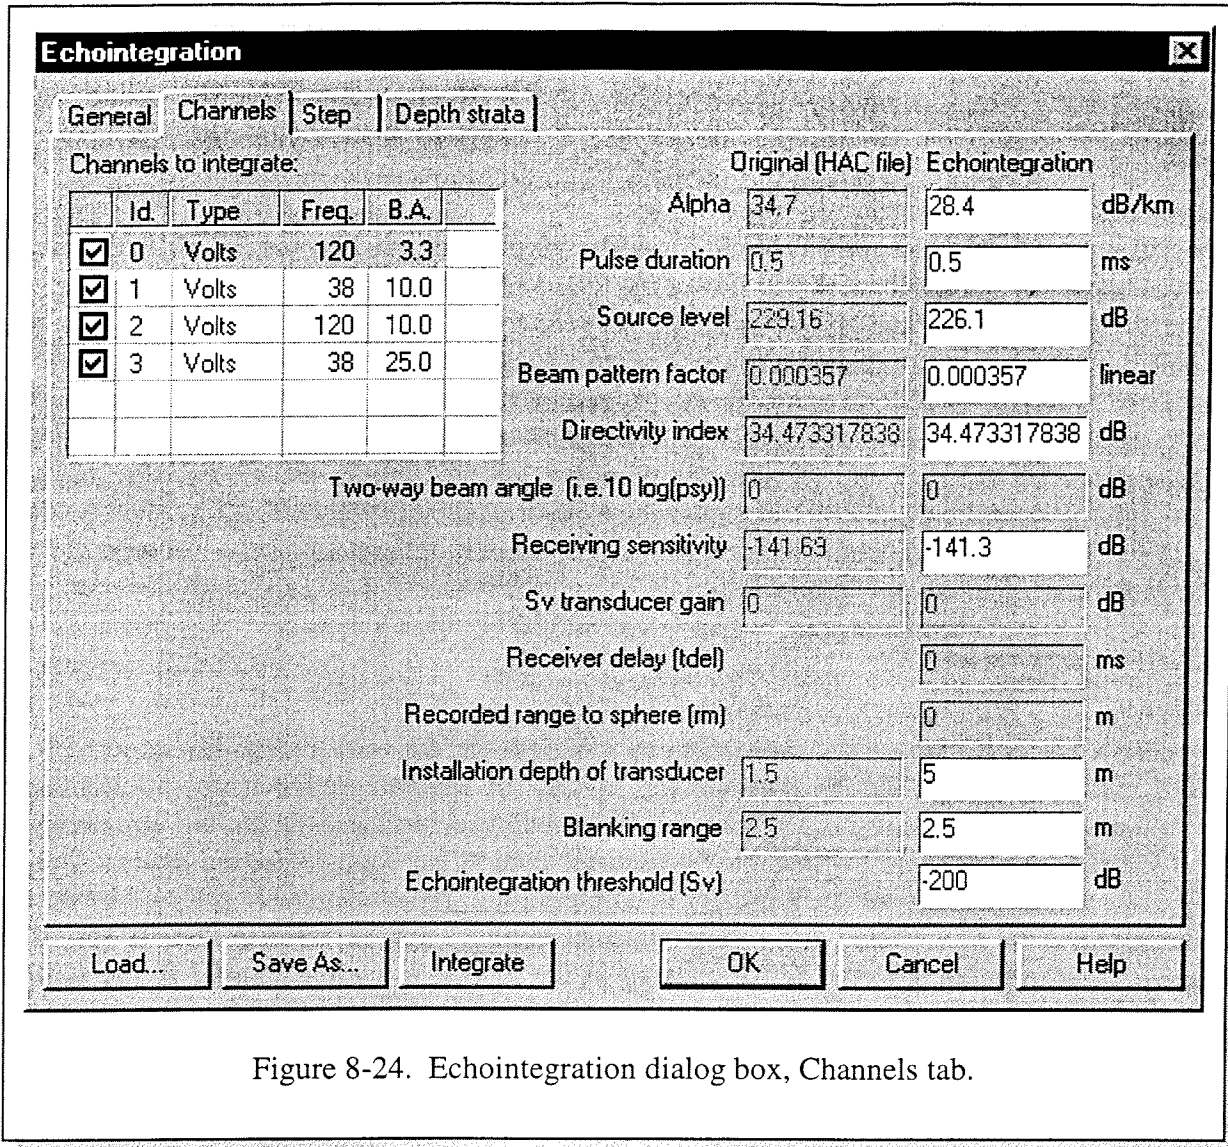

Figure 8-24. Echointegration dialog box, Channels tab.
This tab is to choose the channel(s) to integrate for the echo categories selected in the general tab, to accept or modify their default values for echointegration, and to determine an optional echointegration threshold (Figure 8-24). The Channel to integrate combo box presents a list of the **HAC** data channel(s) that can be used for computing echointegration results. Only 20 log R volts or  $S_v$  channels are available for echointegration. All channels are selected by default. Uncheck the ones not wanted for computation of echointegration results. The values of the parameters corresponding to the active channel in the combo box are displayed in the series of fields of the dialog box. The parameters displayed depend on the type of echosounder used. The parameters differ between the analog Biosonics type and the EK500. Refer to the **CHI** manual (Simard *et al.* 1998) or the **HAC** format description (Simard *et al.* 1997) for the parameter definitions. The **HAC** data file default values are displayed in the grey fields of the Original (**HAC** file) column. If necessary, use the editable fields of the Echointegration column to change these values for echointegration. If the echosounder is an analog Biosonics type, the Beam pattern factor (BPF) and Directivity index (DI) fields are displayed. Those two fields work together according to the following equation:  $BPF = -10^{DI/10}$ . **CH2** uses the linear-scale beam pattern factor parameter. If you only know the alternative directivity index parameter in dB and you want to change its value, enter the new value in the corresponding editable field and the Beam pattern field will be changed automatically. The conversion can also be done in the other direction (BPF to DI). If the data came from an EK500 echosounder, two additional fields are given for applying a range-dependent correction necessary to offset a systematic error introduced during the calibration of older versions ( $\leq$  ver. 5.2) of the EK500 (Fernandez and Simmonds, 1996) (see section 8.6.6). The two parameters of the correction are the EK500 Receiver delay (milliseconds) ( $t_{del}$  of Fernandes and Simmonds 1996) and the EK500 Measured range to sphere at calibration (metres) ( $r_m$  of Fernandes and Simmonds 1996). The EK500 measured range to the sphere differed from the true range to the sphere ( $r_{sph}$ ) because of the receiver delay. Enter the values of these two parameters in the corresponding fields, if necessary. The next two parameters